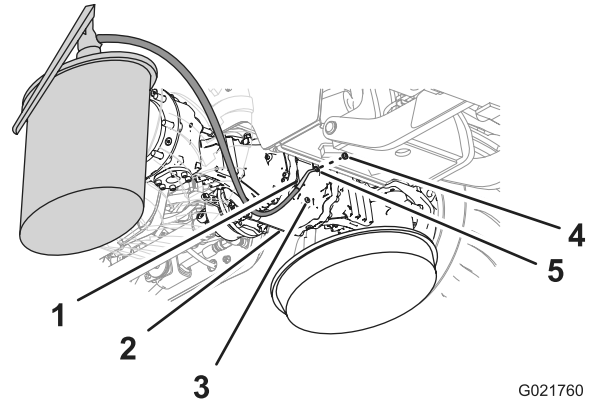
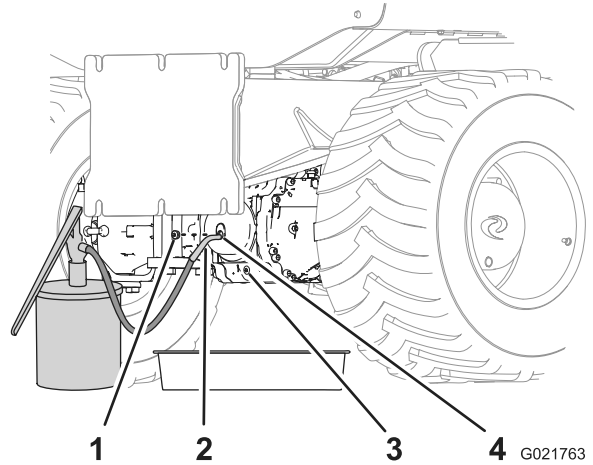

Figure 71
Figure 72
5. Install one of the plugs into the drain port (Figure 71 and Figure 72).
6. Fill the pinion housing and axle with the specified oil through the sight port until the oil is level with the threads at the bottom of the port (Figure 71 and Figure 72).
8. Install the remaining plug into the sight port of the pinion housing (Figure 71 and Figure 72).